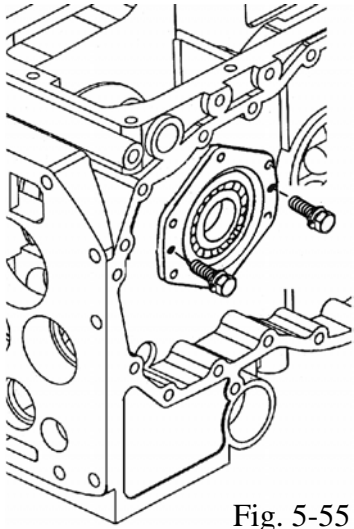

Fig. 5-55
- a. Dismount diff-case (RH) and diff-case metal(LH) by installing push bolt as shown in Fig.5-55